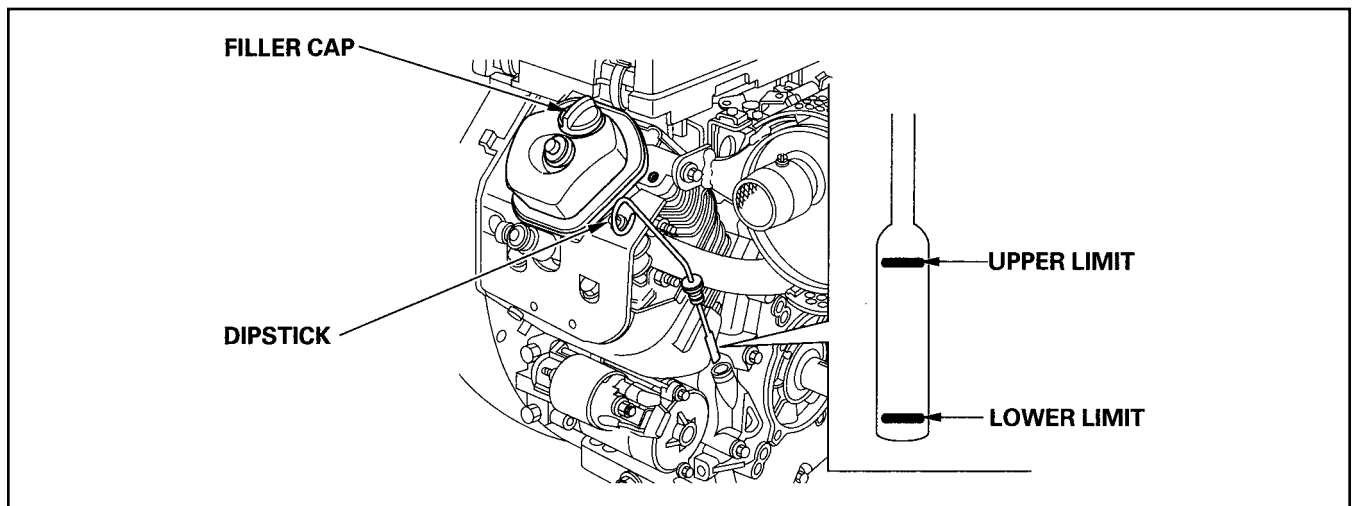

FIGURE 3-1. OIL LEVEL CHECK
1. Remove the oil fill cap/dipstick (See Figure 3-1), wipe it clean, screw the cap back on and then remove it again to check the oil level on the dipstick.